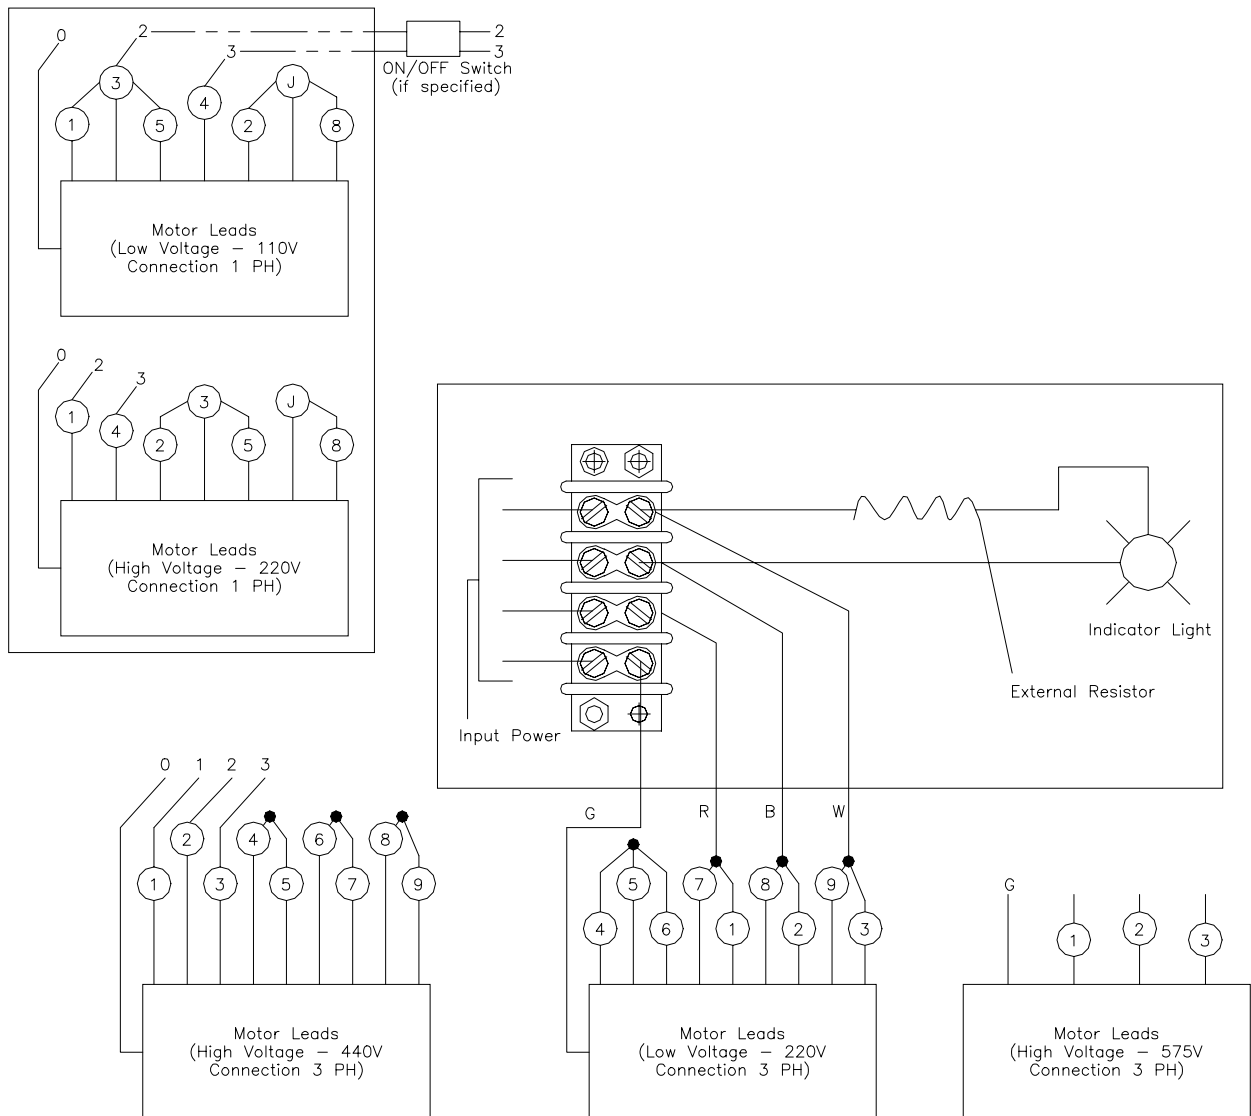

Figure 2 - Wiring Diagram Unit and Motor Voltage Connections
3. The motor is pre-wired for the voltage as labeled in the box. Observe these ratings. Verify the incoming voltage prior to connecting it to the machine (see figure 2).